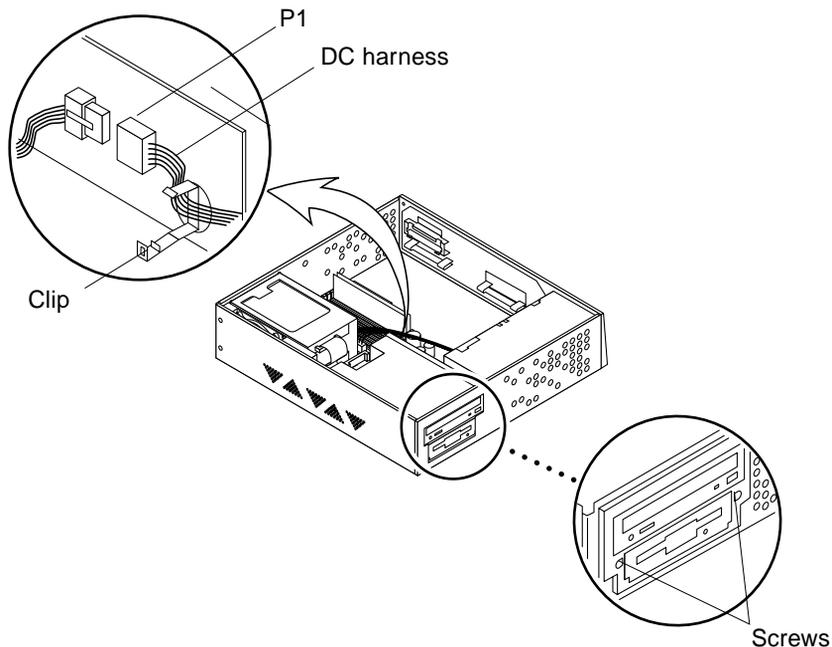

FIGURE 2-9 Drive Bracket
1. Remove the two screws from the chassis that secure the drive bracket (FIGURE 2-9).
2. Remove the DC harness from the clip located on the drive bracket (FIGURE 2-9).